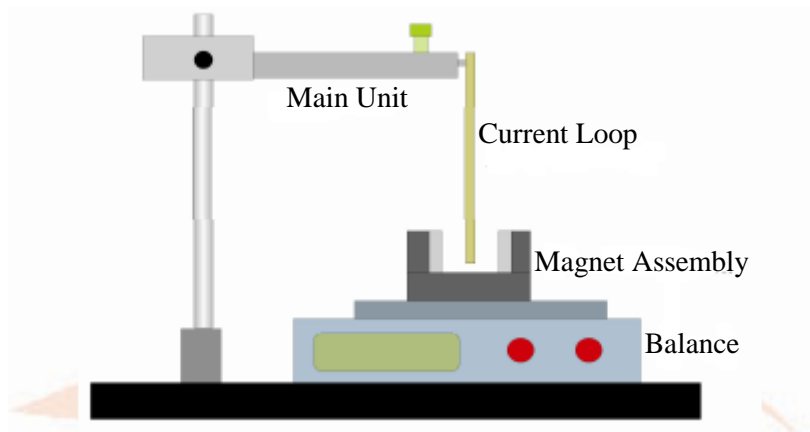

Figure 3.3. Setup of Current Balance (side view)
3. Plug the current circuit, which includes the current loops, into the ends of the Main Unit, with the foil extending down as shown in Fig.3.3.